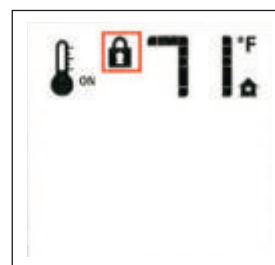

Figure 69. Lock ON.
- To activate the Lock, press the Mode key and UP Key at the same time. Fig. 69.